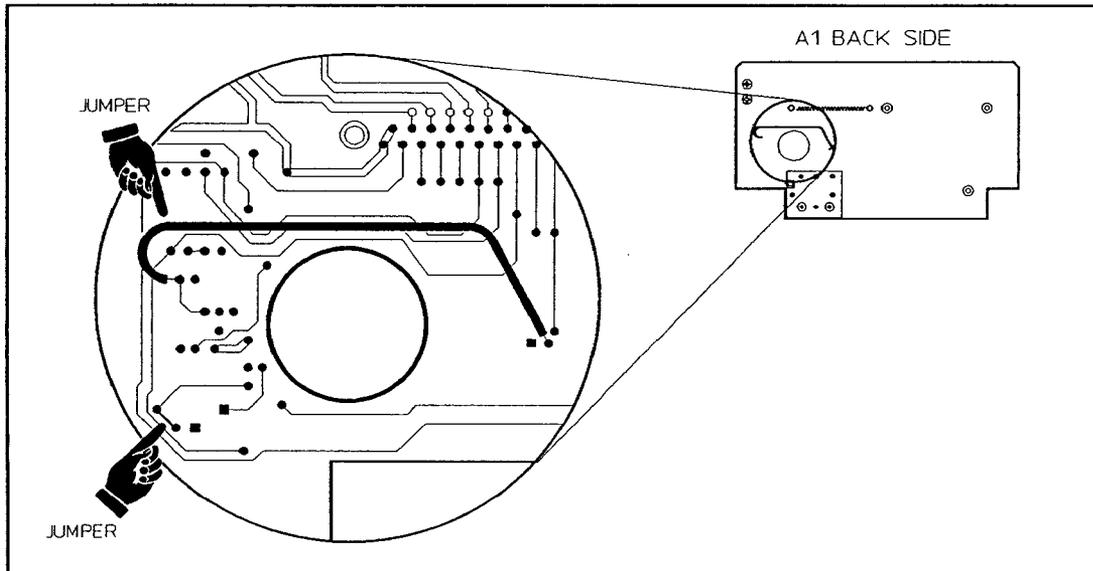

Figure 1. Good Revision E A1 Display Assembly (Back Side)
If the A1 Display Assembly has the two jumpers shown in Figure 1, this is the working version of the revision E boards. If the board does NOT have these jumpers, it needs to be repaired.
1. You must solder two jumpers on the back side of the A1. The jumpers are shown on *Figure 1*.